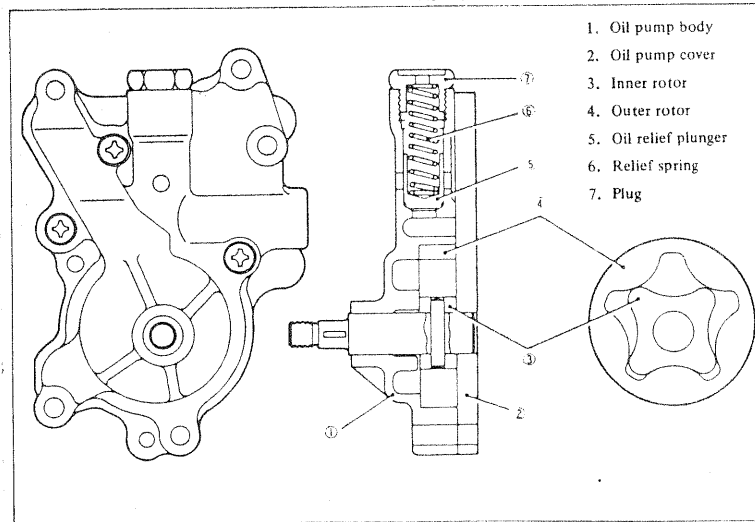

Figure 2.3-A. Oil Pump
2.3.1- GENERAL (Figure 2.3-A)
2.3.4- OIL PUMP DISASSEMBLY (Figure 2.3-B)